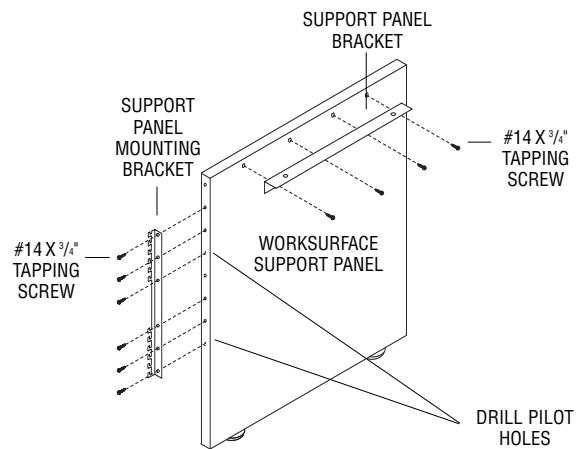

FIG. 2
7. Take the support panel and the support panel mounting bracket in hand. Position the mounting bracket against the mounting holes **down one set**. Drive (4) #14 x 3/4" tapping screws into the pre-drilled holes and tighten. There will be (2) support bracket holes where no pilot holes are drilled in the support panel. Drill pilot holes into support panel through support panel bracket holes with a 9/64" (.140) drill bit. Insert and tighten (2) remaining screws (Figure 2).
8. Attach support panel bracket to top of worksurface support panel with (4) #14 x 3/4" tapping screws (Figure 2).